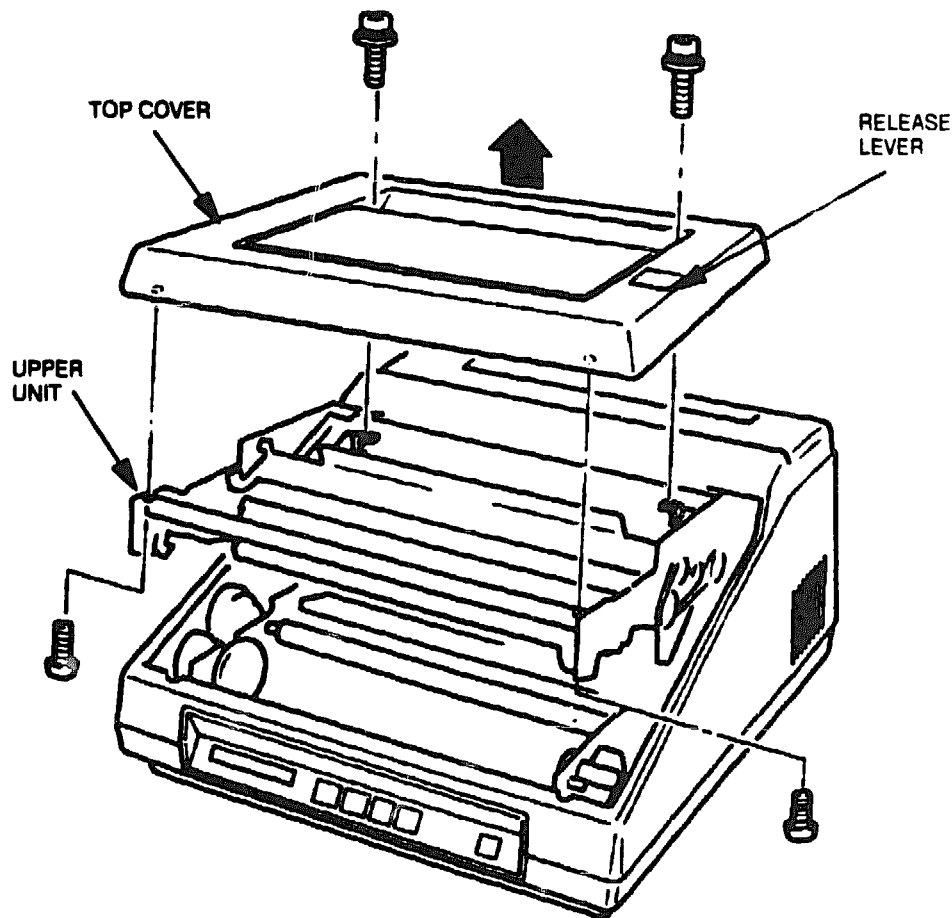

Figure 6-14 Top Cover Removal
3. As shown in Figure 6-14, remove the two screws on the rear portion of the top cover. Then slide the release lever forward (toward the control panel) on the top cover and open the upper unit.
4. Remove the two top cover screws on the upper unit inside frame (see Figure 6-14). Then lift the top cover off the printer.